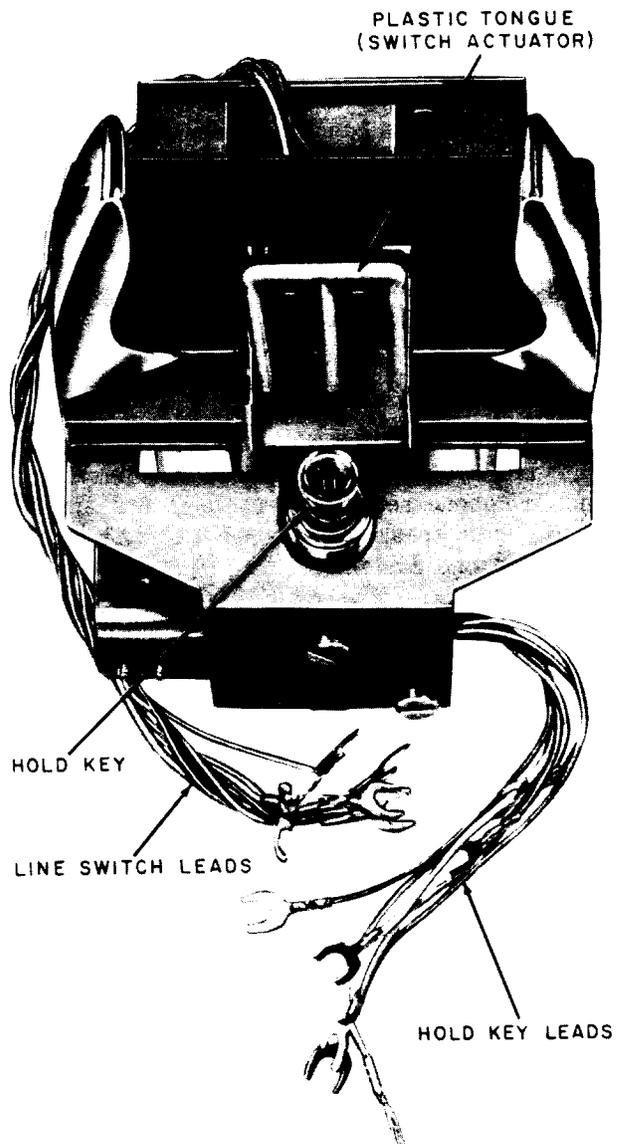

Fig. 16—264A Line Switch
2.44 The **264A** switch (Fig. 16) is similar to the 263A switch except it is equipped with a hold key for use in installations where a hold or exclusion feature is desired. This switch is similar to that used on 751-type panel telephone sets (see Sections 502-750-300 and 502-750-401) except 18-inch spade-tipped leads are provided. The switch is mounted in the same manner as the 263A switch.